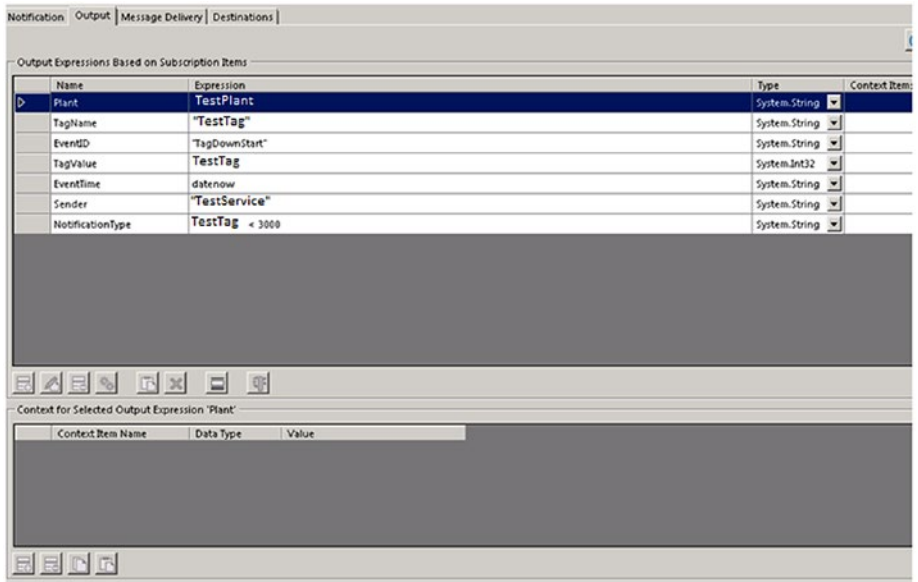

Figure 7-146. Defining the output structure of notification
7. Define the message format in the Output tab, as shown in Figure 7-146.